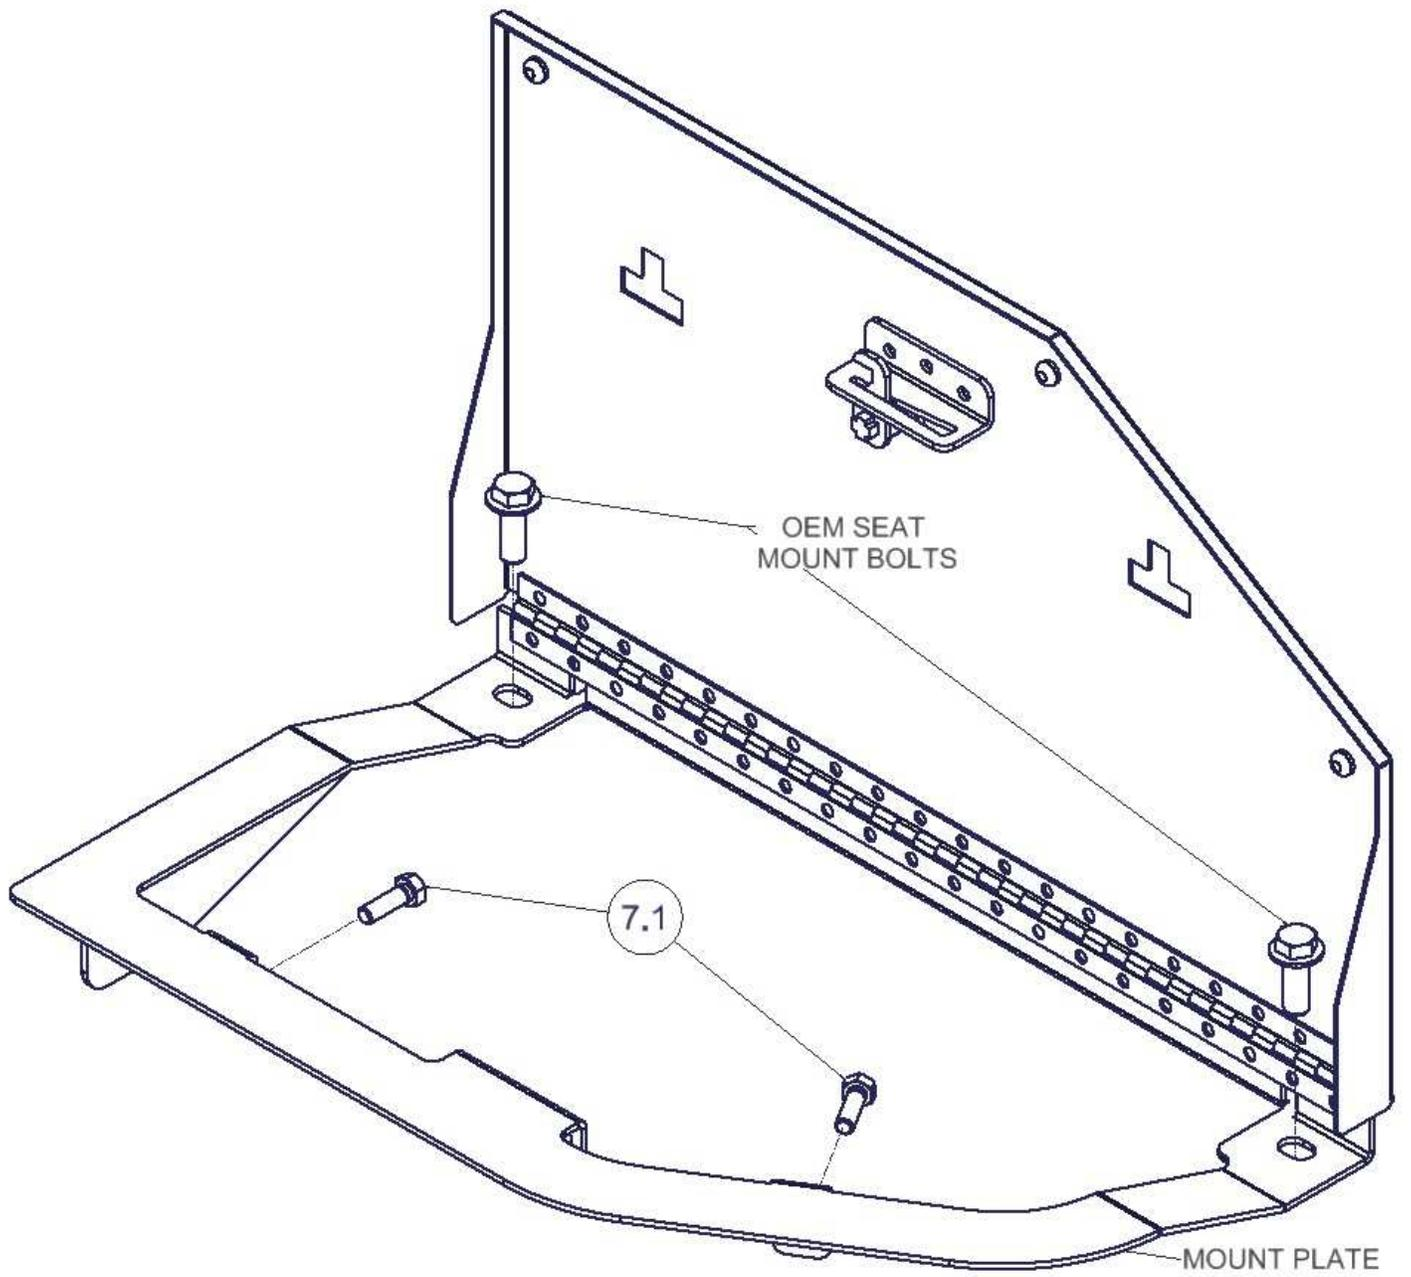

FIGURE 1
2. Using the 18mm wrench/socket remove the large mounting bolts (SEE FIGURE 1, OPPOSITE SIDE) that secure the forward seat mounts/platform, save for later use.
7. Start, but do not tighten, the large mounting bolts near the hinge to align the unit over the opening. (SEE FIGURE 1)
8. Insert the (2) #7.1 mounting bolts from the shipping package (enclosed with the keys), through the forward holes in the 1/8" thick #312 mount plate and into the factory mounting slots, which held the plastic pins (some downward pressure on the forward edge of the mount plate may be required, SEE FIGURE 1).